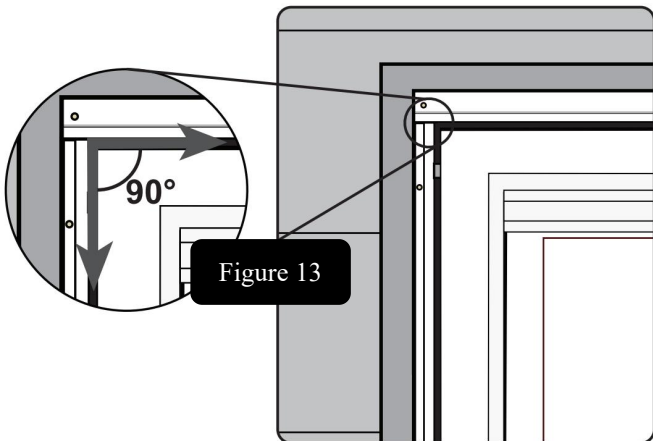

Figure 13
**Step 3:** Push up the top end against rain cap. Close the storm door and slide the latch rail towards door frame until it contacts all three spacer pads. (Figure 13)